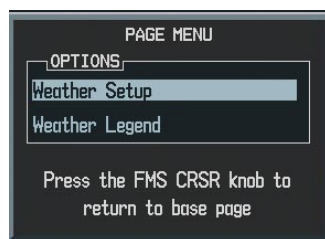

Figure 6-4 Weather Data Link Page Menu
- 3) With 'Weather Setup' highlighted, press the **ENT** Key (Figure 6-4).